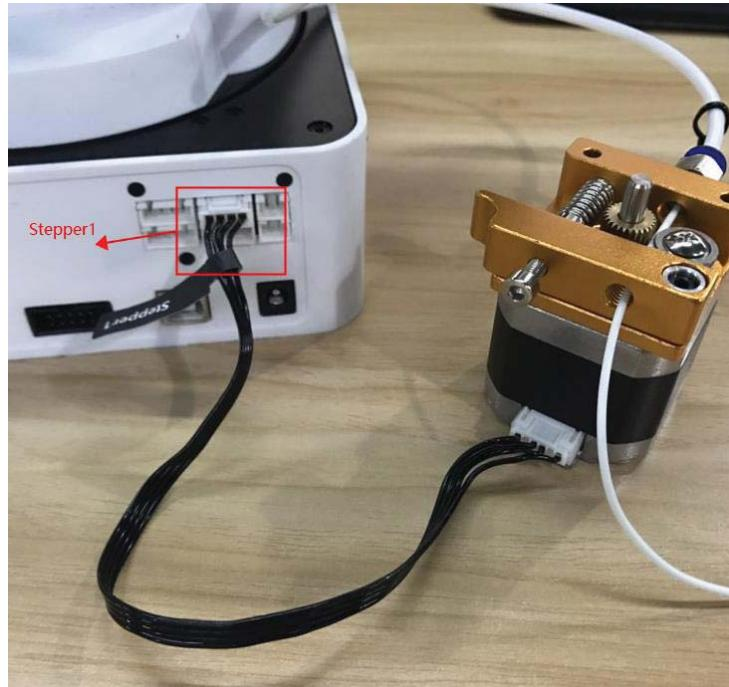

Figure 5.122 Connect with extruder
**Step 6** Connect the extruder to the **Stepper1** interface on the back of the base with motor cable, as shown in Figure 5.122.